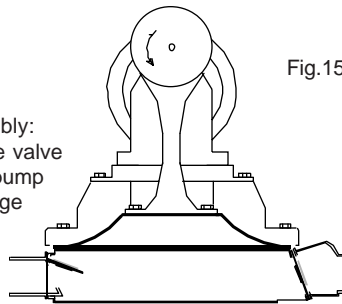

Fig.15
- Raising the diaphragm creating a vacuum. Fig.15